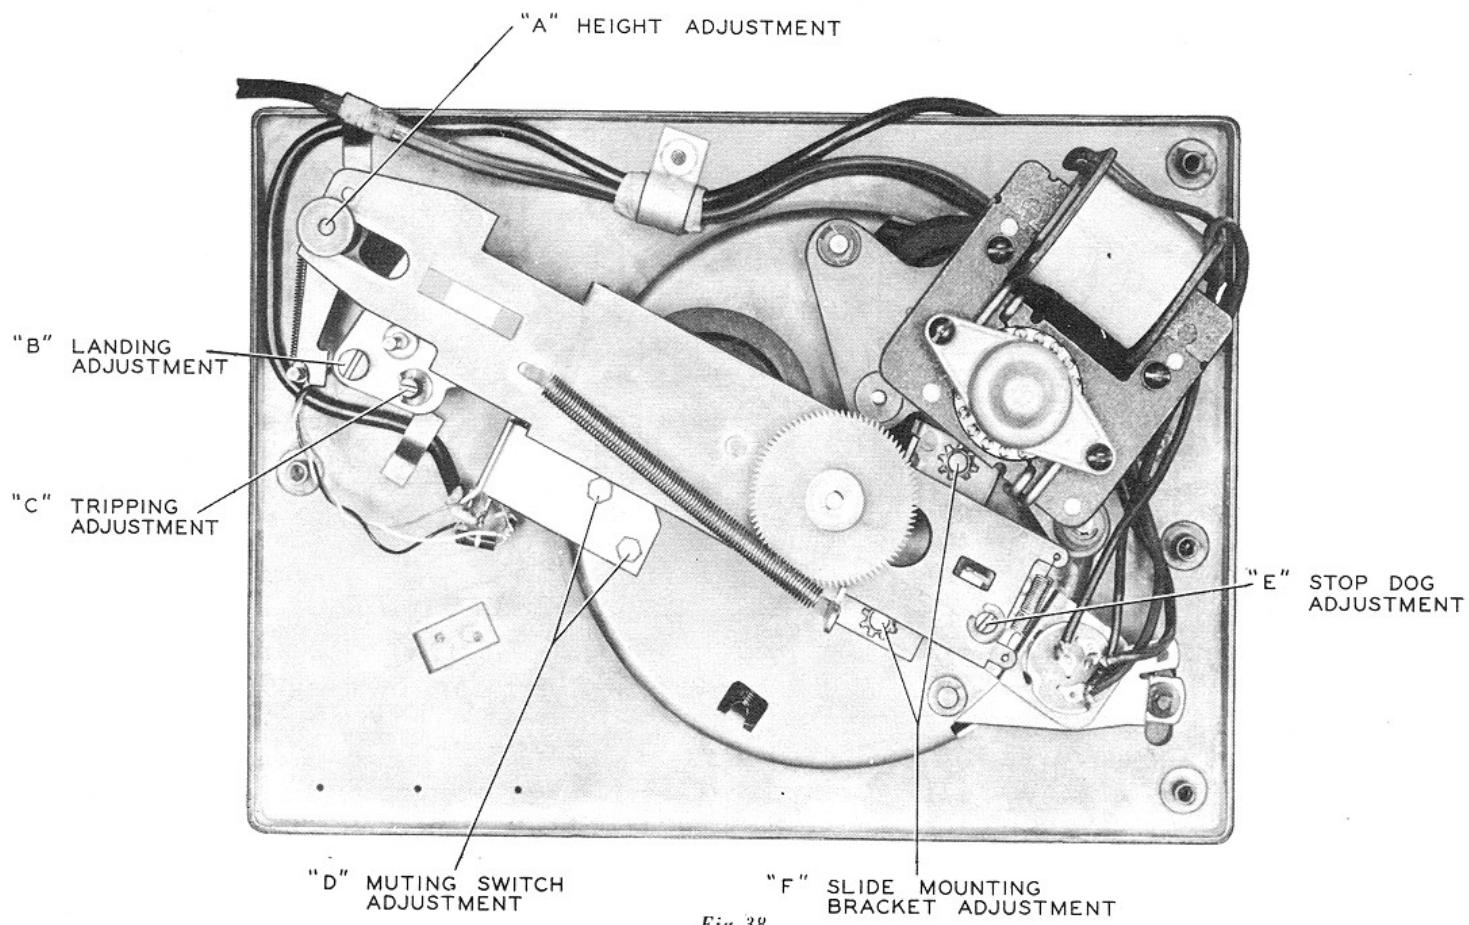

Fig. 38
Under ordinary conditions the landing adjustment is a screwdriver adjustment as shown. The adjustment of eccentric landing adjustment stud (B) gives approximately a  $\frac{1}{4}$ " movement. (See Figs. 38, 40.)
5. Exact landing adjustment can now be made by a screwdriver on stud (B). (See Fig. 38.)
### Pickup Height Adjustment (See Fig. 38):
### Mounting Bracket Adjustment (See Fig. 38):
### Muting Switch Adjustment (See Fig. 38):
### Stop Dog Adjustment (See Fig. 38):